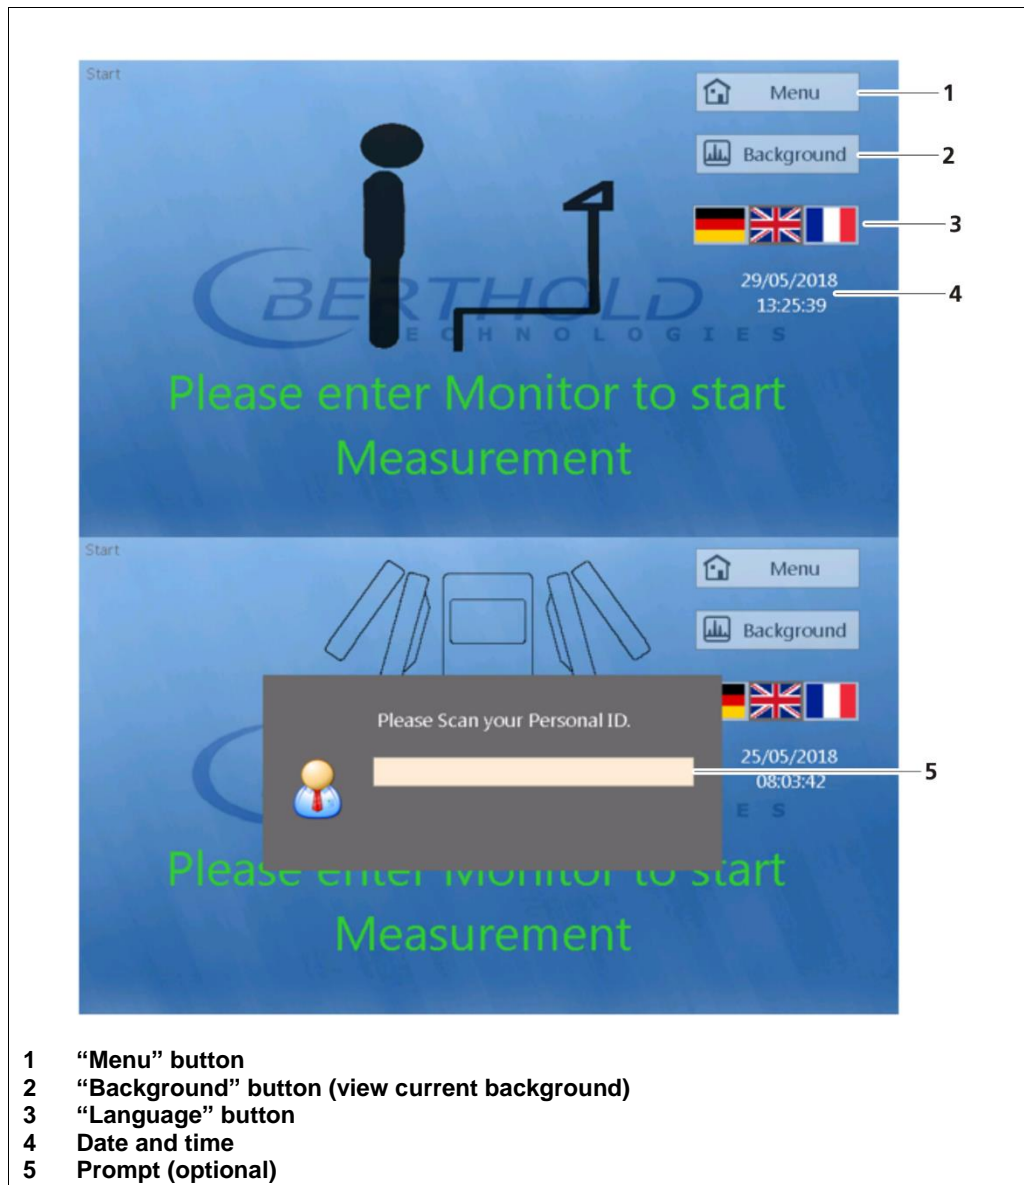

Fig. 12 Starting the system
2. Scan your magnetic card / chip. This prompt (see Fig. 12, item 5) Fig. 12 Starting the system is displayed only when the presence control is enabled (see chapter 7.4 System).
The start screen (ready to measure) appears if you do not touch the display in the menus for 60 seconds (Fig. 12).